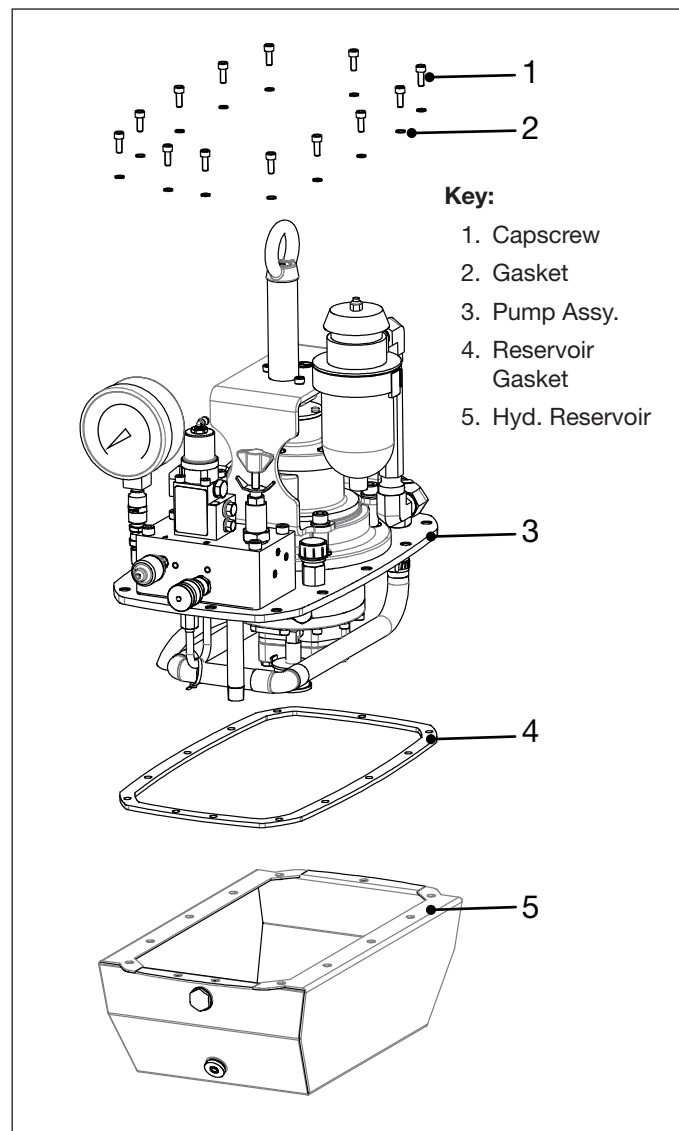

Figure 18: Pump Assembly and Hyd. Reservoir
11. Connect hoist and sling to eyebolt. Carefully lift the pump assembly off of the hydraulic reservoir as a complete unit. See Figure 18.
16. Inspect the reservoir gasket. Replace it with a new gasket if worn or damaged. See Figure 18.
17. After cleaning is completed, reassemble the pump assembly to the hydraulic reservoir, following steps 8 through 11 of this procedure in reverse order. Apply Loctite 243 thread sealant to all cover plate mounting bolts and torque them to 60-75 lb-in [6.8-8.5 Nm]. See Figure 18.